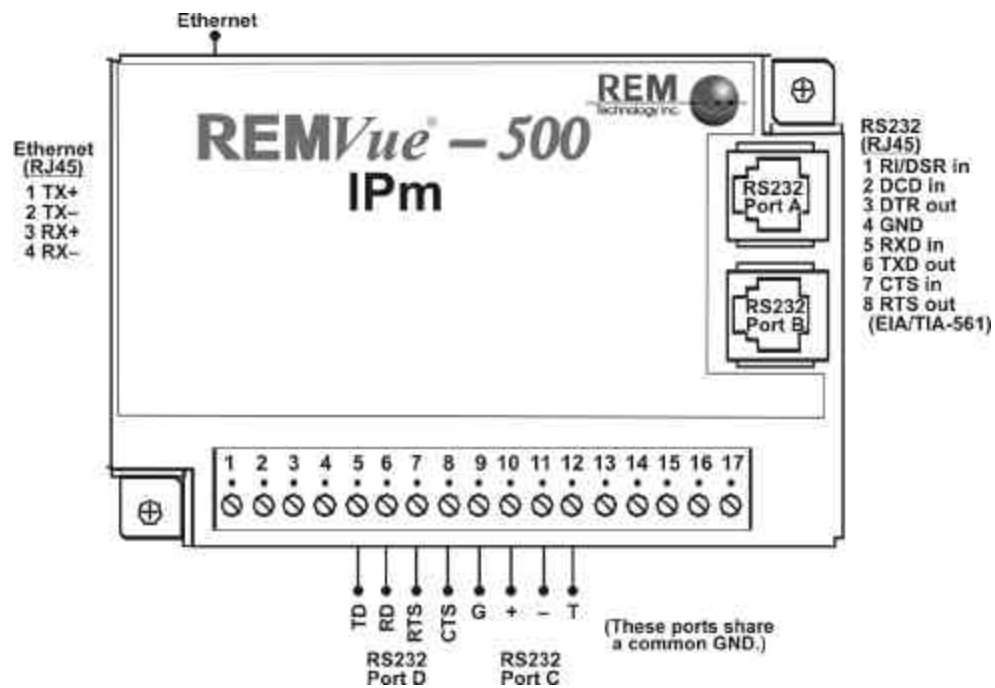

Figure 5 REMVue® Communication Connections
These ports are identical in connection and functionality. A RJ45 female connector is provided for each. The pin-outs follow the EIA/TIA-561 standard (see *Figure 5*). A pre-wired DB9F to RJ45F adapter is included with these units. Use this adapter along with a RJ45 male to RJ45 male straight-thru wired patch cable (*not included*) to make a connection between a com port on your PC (*DB9 male*) and either Port A or B (*RJ45 female*). Refer to the REMVue® Catalog for more information on connecting to other equipment.
**Notes:** *The 5th terminal is signal ground and is shared by the adjacent RS485 Port C. Refer to Figure 5 for the exact connections.*